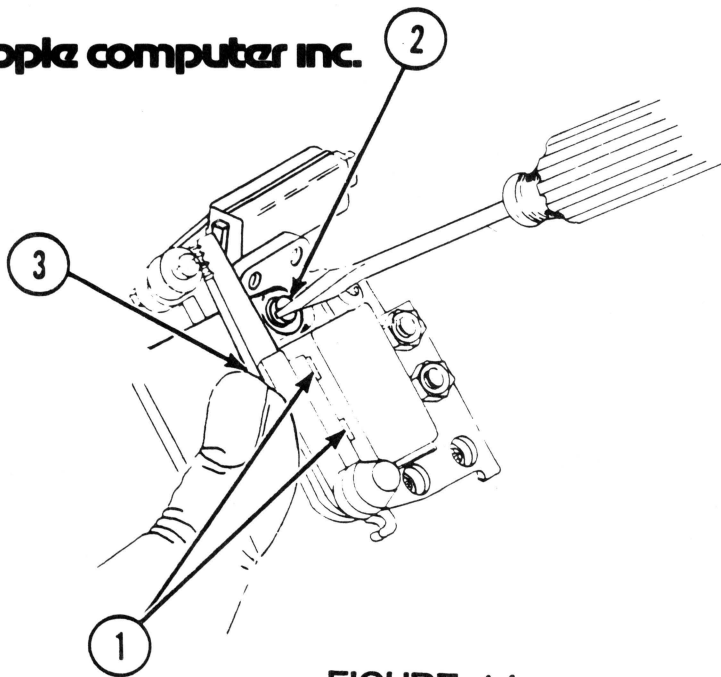

FIGURE 14
The hammer armature front stop (Figure 14, #2) limits wear between the armature (Figure 14, #3) and the coil pole pieces (Figure 14, #1). The adjustment is more to reduce wear than to improve print quality.
1. The front stop (Figure 14, #2) is an eccentric screw held in place by a locking nut. With a 3/16 inch wrench on the nut and a flatblade screwdriver in the eccentric, loosen the eccentric.
2. Push the hammer armature (Figure 14, #3) against the coil pole pieces (Figure 14, #1).